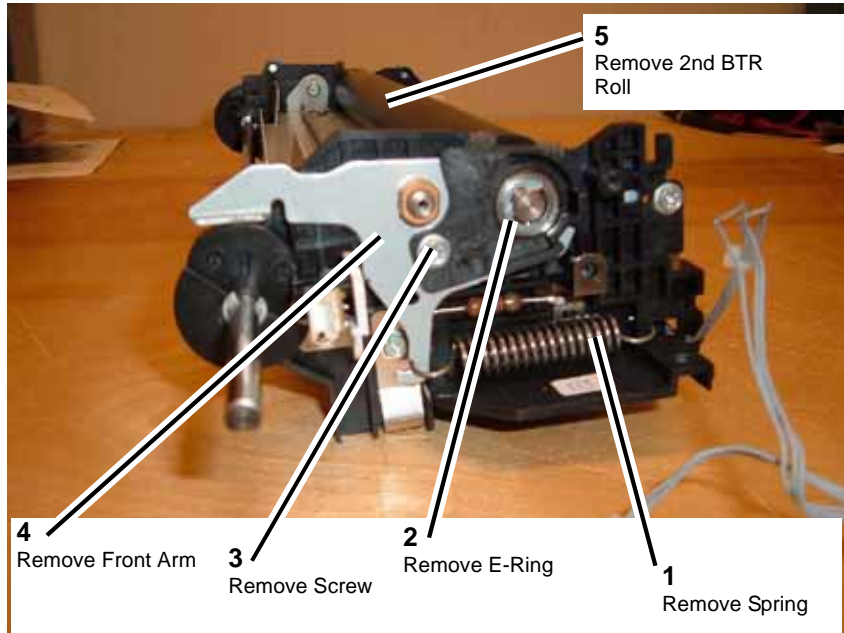

Figure 5 Removing the 2nd BTR Roll
6. Remove the 2nd BTR Roll (Figure 5).